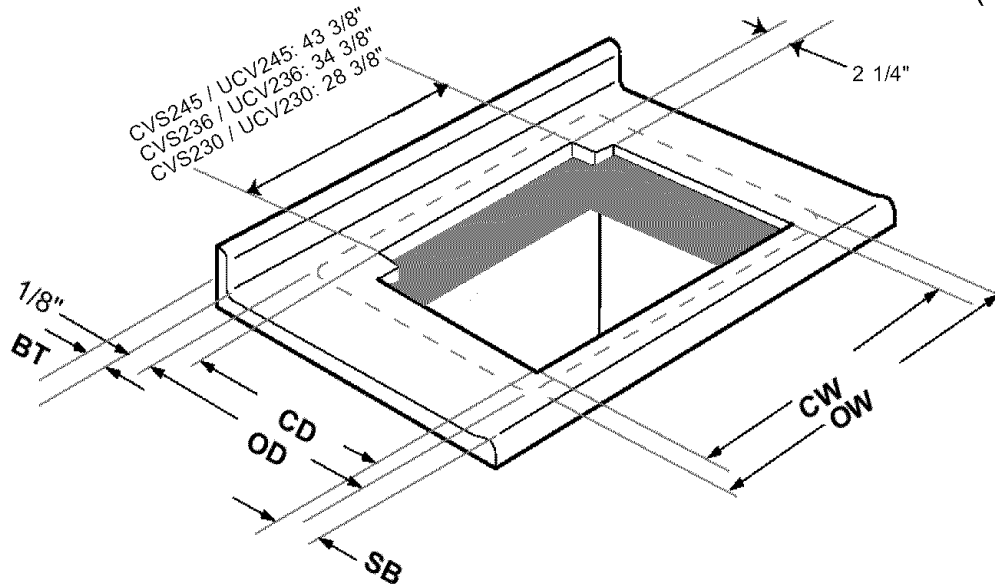

Figure 8
B. FOR INSTALLATION WITH ANOTHER BRAND OF COOKTOP (Figure 8)
See Figure 8 for CVS2 / UCV2 cutout widths and dimension definitions.
6. Cut countertop using dims: CD, CW and SB as defined in Figure 8.